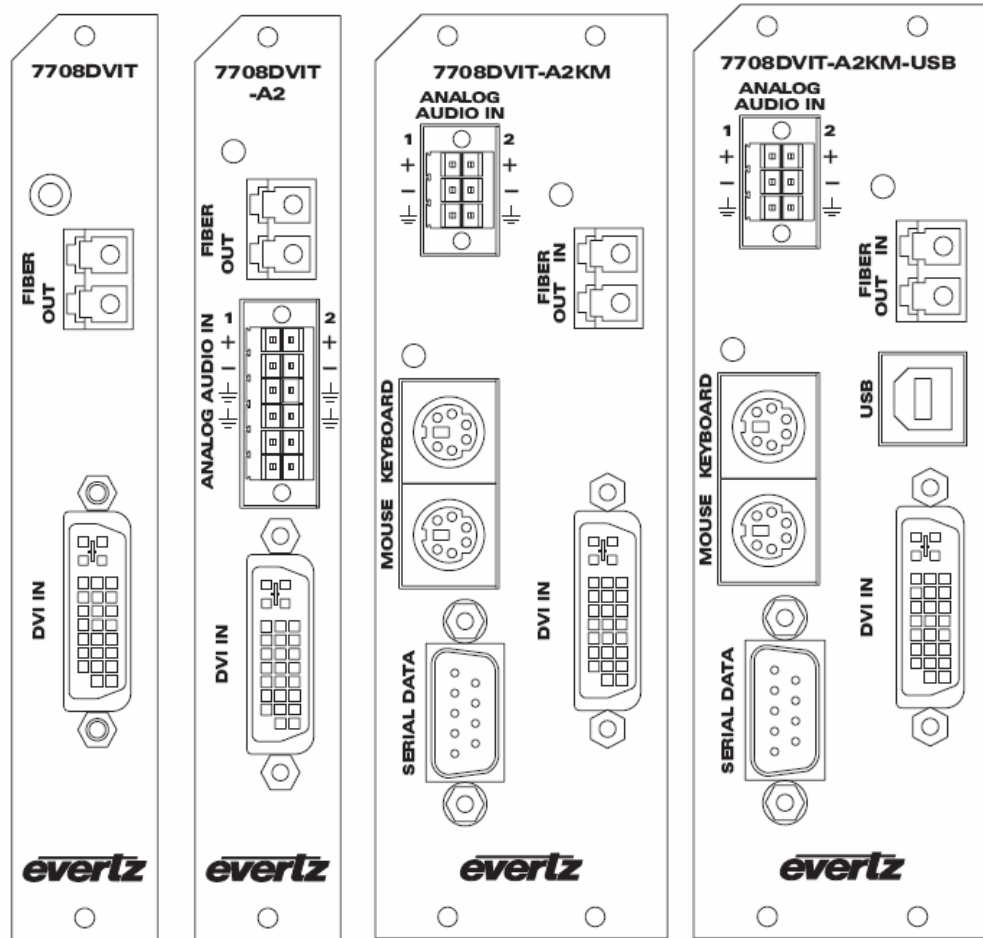

Figure 2-1: 7708RGBT & 7708 DVIT Rear Plates
- Figure 2-1: 7708RGBT & 7708 DVIT Rear Plates 5